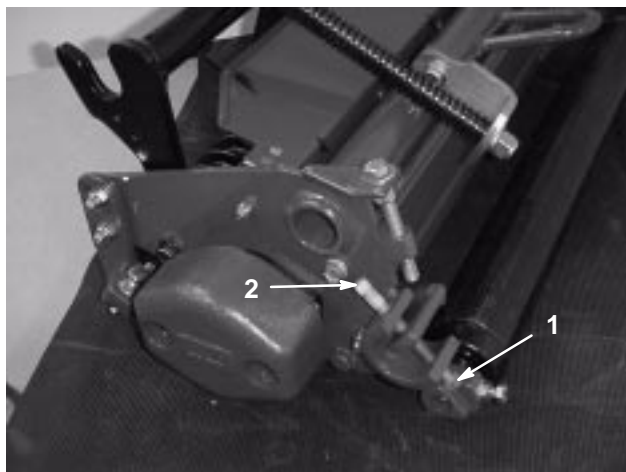

Figure 5
2. Adjustment of bedknife to reel is accomplished by first, loosening bottom screw on each side of cutting unit (Fig. 5), then tightening the top adjustment screw
3. After adjusting bedknife to reel, make sure that both the top and the bottom adjustment screws are secured on both ends of the cutting unit (Fig. 5).